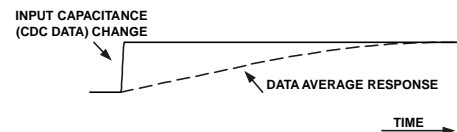

Figure 18. Data Average Response to Data Step Change
Where Average(N) is the value of average N complete CDC conversion cycles after a step change on the input, Average(0) is the value before the step change, and the TimeConstant can be selected in range between 2 and 65536 in steps of power of 2 by programming the ThrSettling bits in the setup registers. See Figure 18. See Register Descriptions.